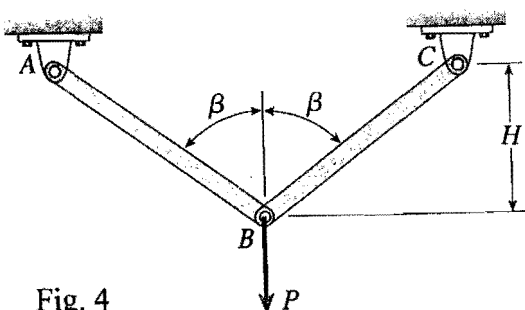

Fig. 4
4. Determine the vertical displacement δ_B of joint B of the truss shown in Fig. 4. Note that the only load acting on the truss is a vertical load P at joint B. Assume that both members of the truss have the same axial rigidity EA. (20 %)